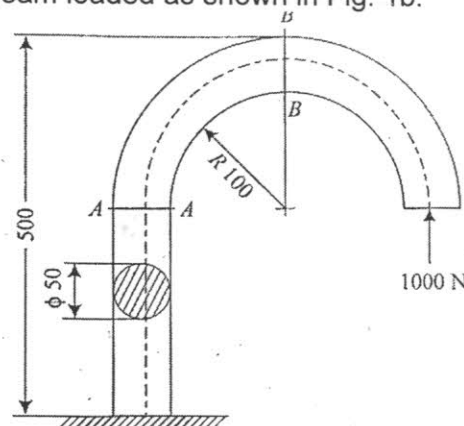

Fig. 1b.
- b) Determine the maximum tensile, compressive and shear stresses induced in a beam loaded as shown in Fig. 1b.